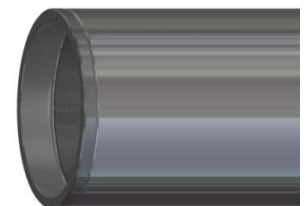

Fig. 12
K-11.6) Screw setting chamber cap (22) into setting chamber (30) (Fig. 12, setting sleeve not shown for clarity).